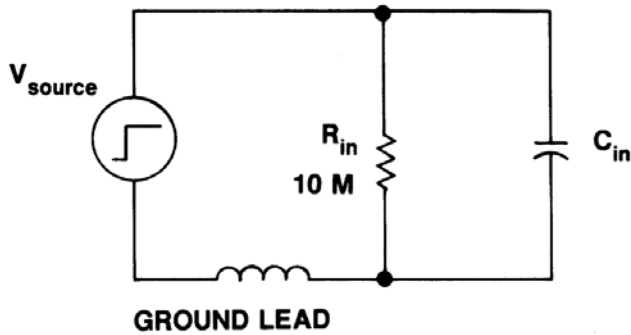

Figure 2. Simplified model for typical passive probe input impedance.
- Second, consider the effects that the probe's impedance or loading will have on the circuit under test, as shown in Figure 2. Ideally, the impedance at the probe tip would be infinite at all frequencies. In practice, the input resistance is often in the MegOhm range, but the input capacitive reactance X_C is: